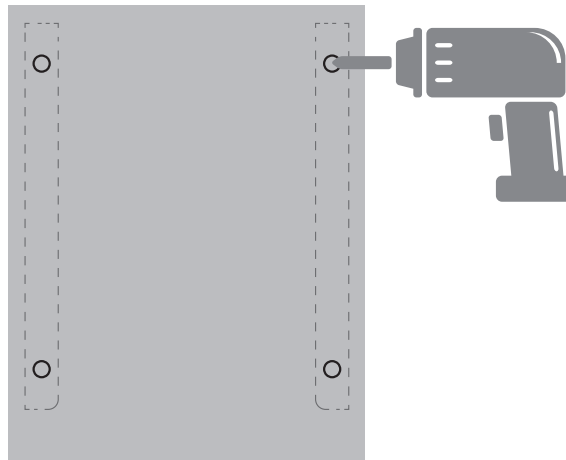

Fig. 5.4.5
3. Drill the mounting holes on the wall with a depth of at least 1.97". (See Fig. 5.4.5)